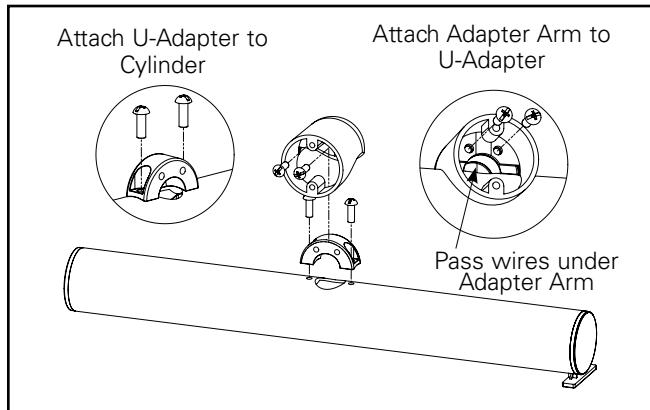

Figure 3.
- c. **WALL MOUNT:** Move the Housing Wire Harness towards the wall side of the fixture. Mount the U-Adapter to the housing using the two screw, passing the wires under the adapter. Feed the Housing Wire Harness through the Adapter Arm and lower the Adapter Arm onto the U-Adapter. Align the screw holes on the side of the U-Adapter and the internal Adapter Arm screw holes and secure them together with two screws. Pass the Housing Wire Harness through the center hole selected on the canopy and secure the Canopy to Adapter Arm with two screws. Ensure the Canopy Securing screw hole is facing downwards.(See Figure 3)